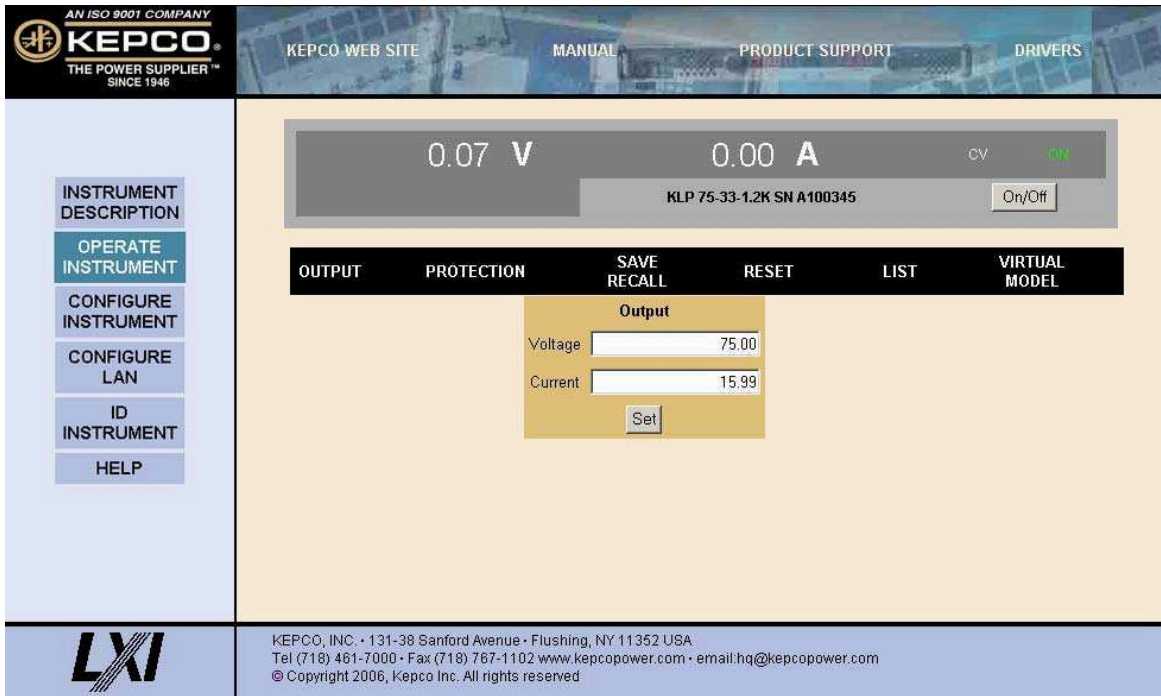

FIGURE 3-7. WEB INTERFACE OPERATE INSTRUMENT PAGE
The Output dialog box opens when the OPERATE INSTRUMENT page is first opened, or when **OUTPUT** is clicked (see Figure 3-7). To set output voltage or current, enter the values and click SET. Voltage and current settings are not allowed to exceed either a) the virtual model setting or b) 80% of the protection value. Attempts to set voltage or current beyond these limits will not be accepted. To turn the output on or off, click the ON/OFF button within the simulated front panel.
- **To save the active settings:** Enter the desired location (1 to 40) in the **LOCATION** box and click **Save State** button to save the active settings. Only the parameters shown in Figure 3-7 can be saved.